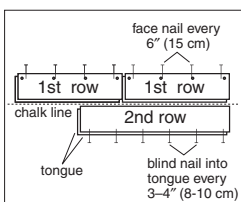

Figure 7
- Use the longest, straightest boards available for the first two rows. For random and alternate width products, use the widest plank for the first row. Align tongue of first row on chalk line. The groove should be facing the starting wall. Pre-drill 1/2" (13 mm) from back (groove) edge, 1"–2" (2.5–5 cm) from each end, and at 6" (15 cm) intervals when possible (Figure 7). Fasten using 4 or 6d finishing nails or 1" (2.5 cm) pneumatic finish nails/brads. Countersink the nails.